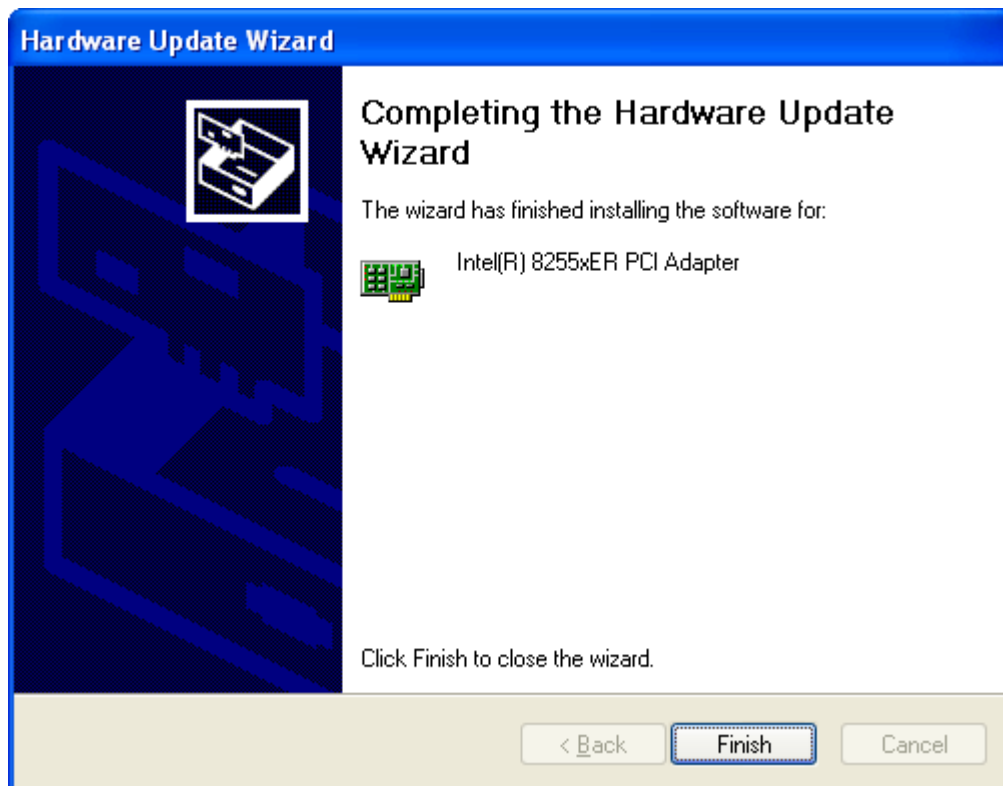

Figure 7-32: Ethernet Driver Installation Complete
Step 14: When the driver is installed, the screen in **Figure 7-32** appears.
Step 15: Click the Finish tab in to complete the **Figure 7-32** installation.